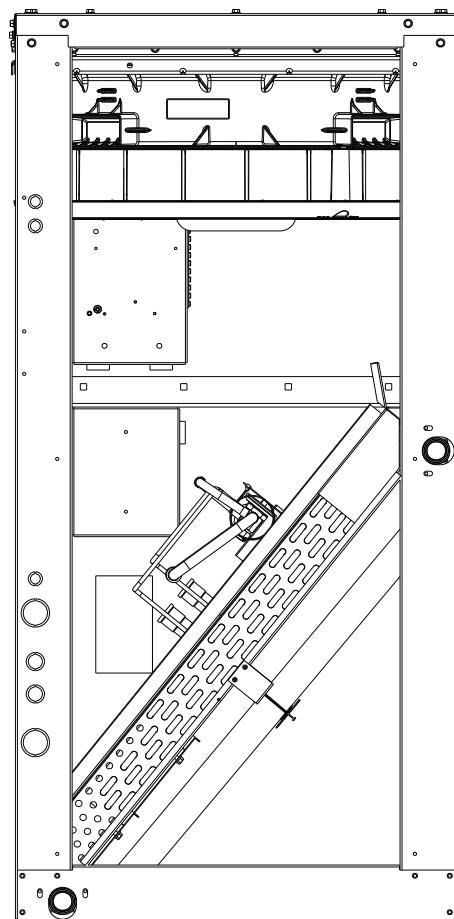

Fig. 26 — Fan Assembly, Side Panel Access (Side Panel Removed)
4. Slide fan assembly out of the panel opening that is being used. Side panel access will require the assembly to be angled to clear the opening. See Fig. 26.